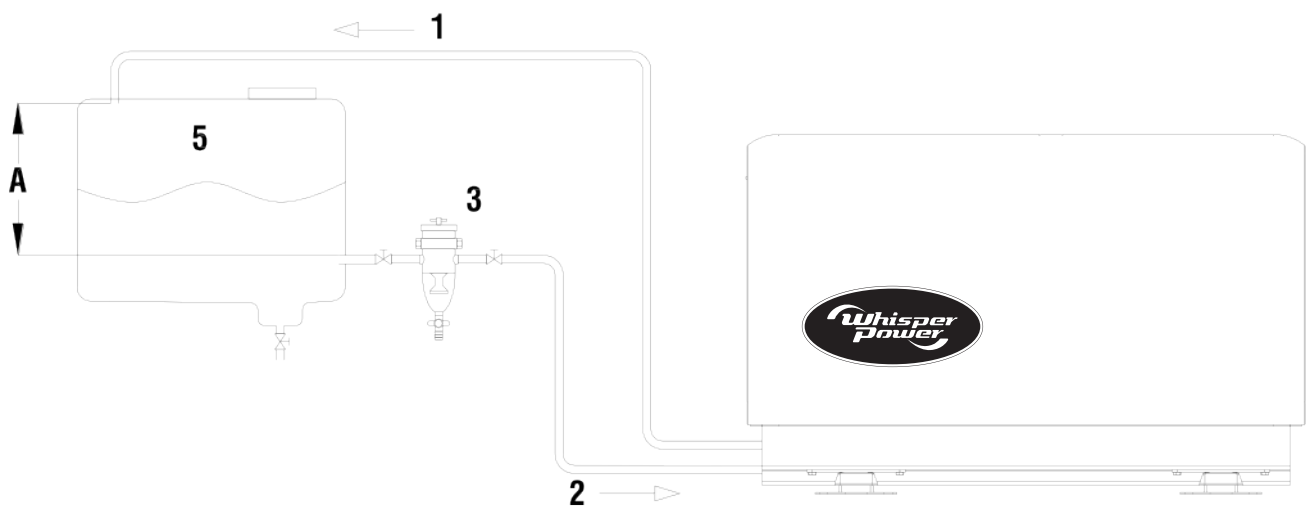

Fig. 8: Fuel supply (fuel tank is above the generating set)
When the tank is above the generating set (figure 8) we recommend ending the return line on the top of the tank. When the return is on the top - in case of a leakage the return line cannot overflow because of siphoning. One will only need a fuel cock in the fuel supply line. When the tank is below the generating set we recommend ending the return line on the bottom of the tank (A) below the inlet of the supply line.